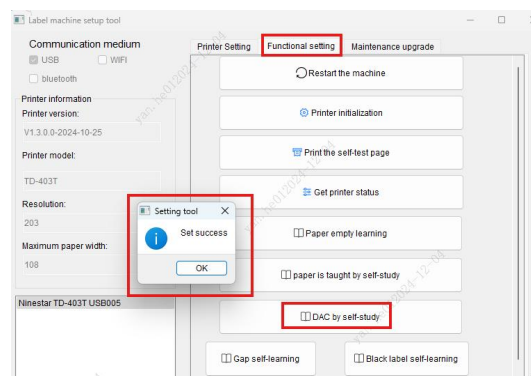

Fig.54
(7) **DAC by self-study:** The printer learns and records the current paper status. Select the "Functional setting" section and click on "DAC by self-study" to pop up the "Set success" prompt box as shown in Fig.54.